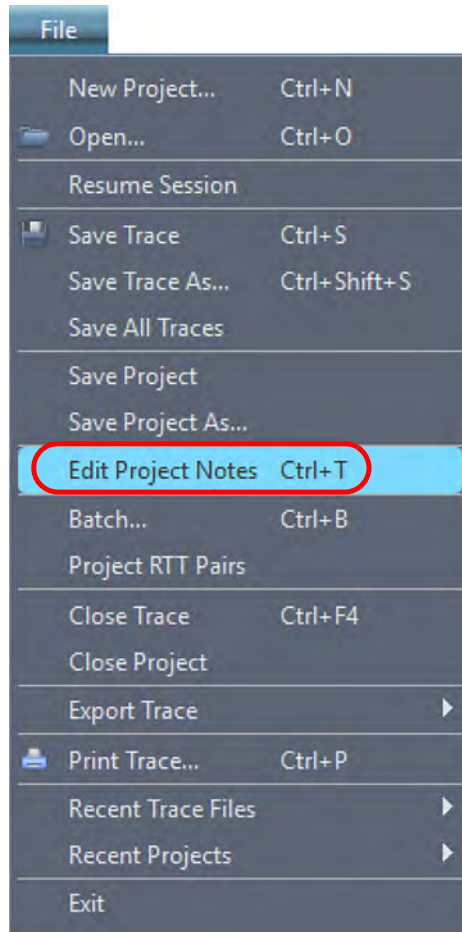

Figure 3.21: Edit Project Notes Button
1. Select **File** → **Edit Project Notes**. A Text Window where you can added notes to the Project. See figures 3.21 and 3.22.